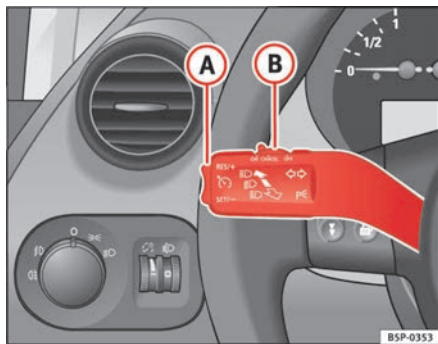

Fig. 146 Turn signal and main beam headlight lever switch and rocker switch for the cruise control
- Press the lower part **SET/-** of the rocker switch ⇒ fig. 146 **A** once briefly when you have reached the speed you wish to set.